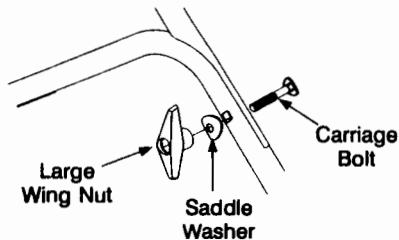

Figure 3
2. Secure the upper handle to the lower handle using curved carriage bolts, saddle washers and large wing nuts, see figure 3.